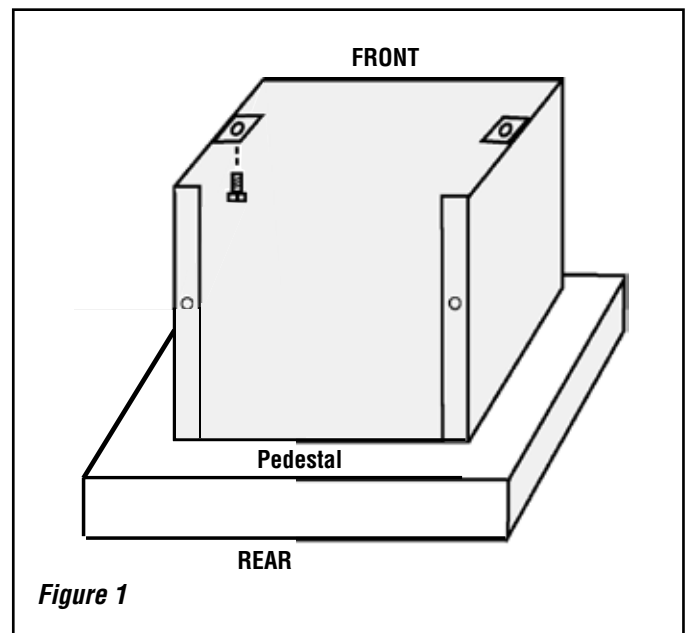

Figure 1
- Step 2.** Carefully put the stove on pedestal with the open end of the pedestal facing the rear (see *Figure 1*). **DO NOT LEAVE THE STOVE UNATTENDED UNTIL IT IS BOLTED SECURELY TO THE PEDESTAL. IT COULD FALL CAUSING SERIOUS INJURY OR DAMAGE.**